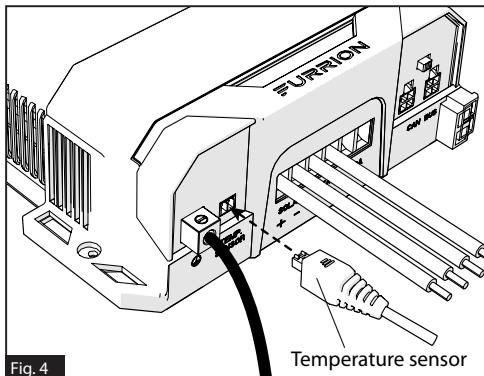

Fig. 4
4. Plug the temperature sensor connector (P/N: C-FSCC60PW-A01, C-FSCC60PW-A02) to the temperature sensor port (if applicable). (Figure 4)